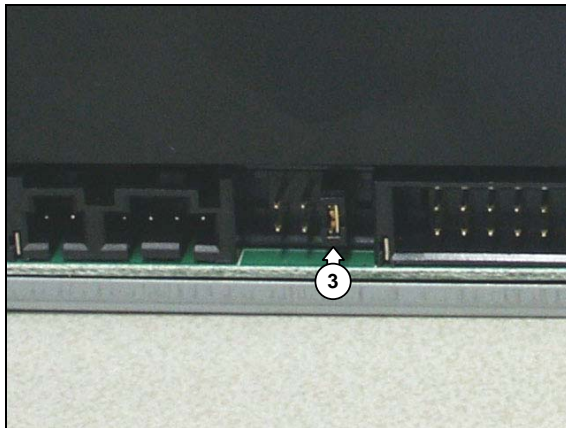

Figure 12.4-3
**Note:** The torque setting required for the ODD mounting screws (2) is 4kg-cm
**Note:** Before re-assembly make sure that the jumper (3) at the rear of the ODD is set to the Master position. See Figure 12.4-3